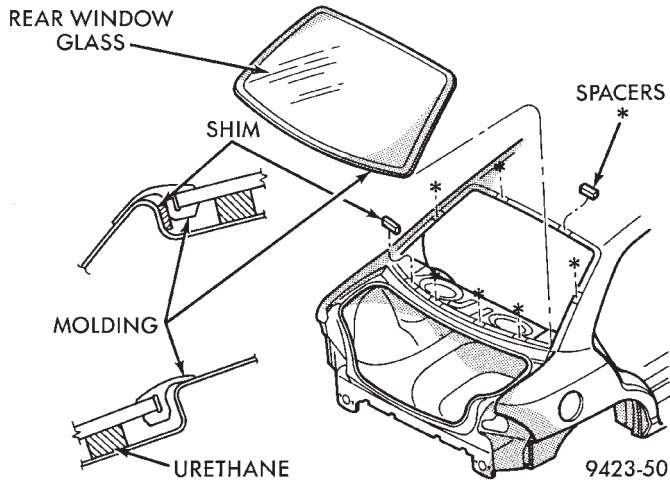

Fig. 7 Rear Window Glass—Typical
- (1) Prepare the work area, window fence, and glass the same way as described in the Windshield section of this group.
- (2) Place fence spacers at the locations shown (Fig. 7).
- (3) Install the rear window molding on glass.
- (4) Apply a 10 mm (0.4 in.) bead of urethane along centerline of window fence.
- (5) Install the glass in the same manner described in the Windshield section of this group (Fig. 7).